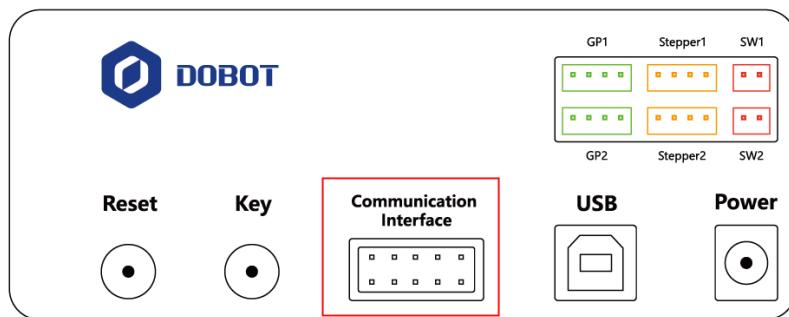

Figure 5.166 Connect with Bluetooth kit
**Step 1** Connect the Bluetooth kit to the UART interface on the base, as shown in Figure 5.166.